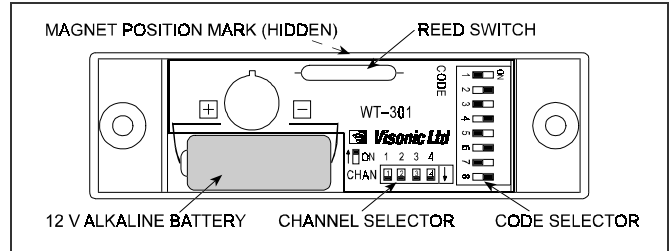

Figure 1. WT-301 - Internal View
A. The WT-301 has an eight-key DIP switch (marked 1 to 8). Each switch may be set to ON or OFF position, to create a unique digital system code - see Figures 1 and 2.